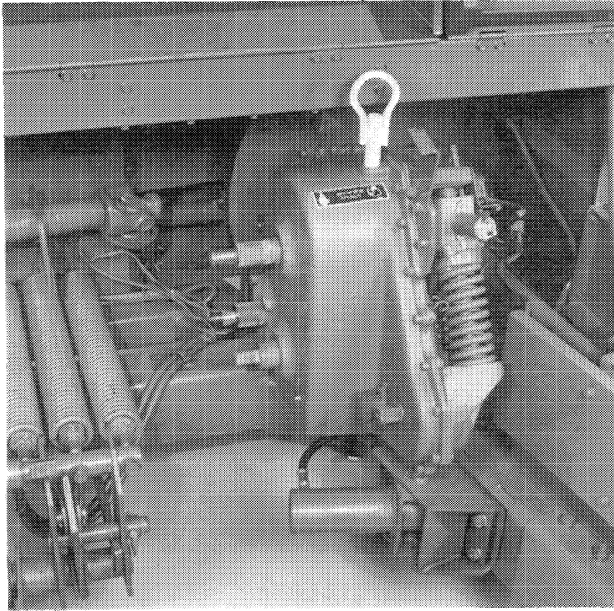
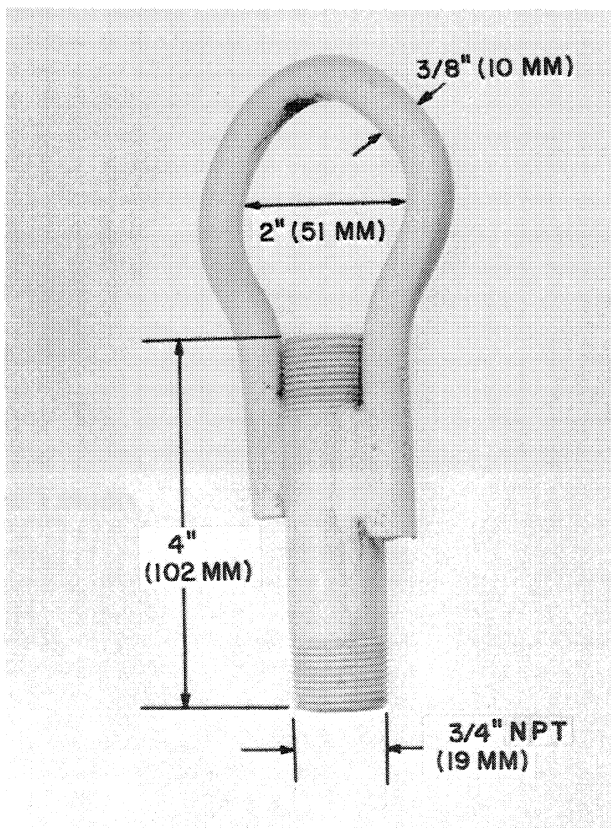

FIGURE 2-29
FIGURE 2-30
11. Remove the reversing gearbox fill plug, and install a lift bracket as shown in Figure 2-29. See Figure 2-30 for lift bracket dimensions.